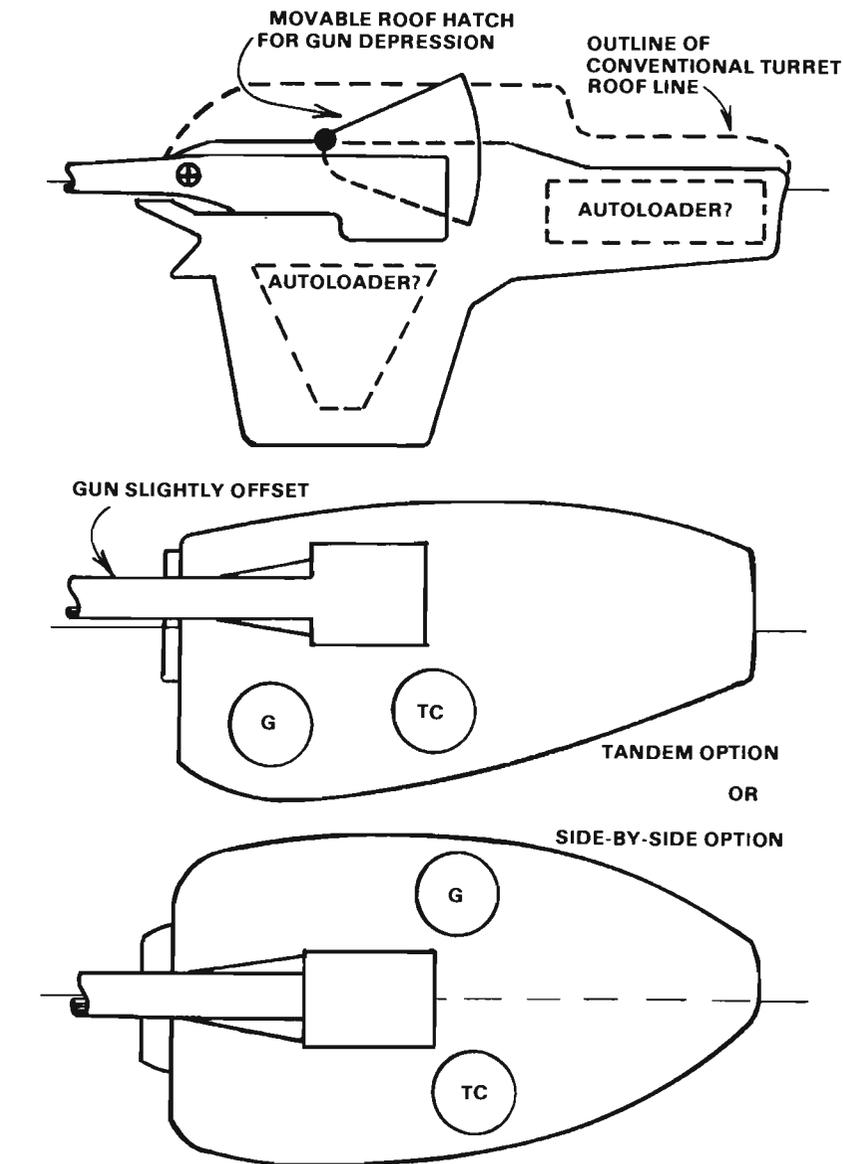

Figure 1a.
Luckily, we have wooden if not yet metal realizations of the two extremes — the conventional in the low profile turret of *LEOPARD 3* (figure 1a), and the far-out in the Swedish *UDES 40* (figure 1b). Very briefly, *LEOPARD 3* will have an autoloader (either a turret-basket carousel or a bustle system); a roof hatch to take care of the breech
Fig 1a. (left) The Leopard 3 concept is more conventional, with commander “up top” in low-profile turret. Several possible autoloader configurations are shown. A roof hatch rises to accommodate the gun breech in depression.
*Low profile turret. (Leopard 3, figure 1a).* The low-profile turret represents a major advance in the face of horizontal attack, whether frontal or flank, because it reduces the height above trunnions (to turret roof), and thus the presented area, by one third or more. The proportionate reduction of the area exposed in hull defilade is evidently much higher. But because the length and angle of the turret side is unchanged, this configuration has little to contribute to the level of protection against flank attack. Much more important, it does nothing at all against overhead attack. The turret roof is just as flat, if anything larger, and significantly weakened by the gun hatch. (In fact, I strongly suspect this turret was designed against the classical threat analysis.) The spread-eagling of the crew right under the roof considerably reduces real survivability, the more so if they are sitting on the main armament ammunition! Putting the turret crew in tandem and offsetting the gun slightly could slightly reduce roof area, but I suspect the “other half” of the turret
important as to make the cleft turret rear its ugly head once more. This is a step in the right direction in that it allows the turret crew to be placed in nacelle-like pods which can be shaped to optimize protection. It also lends itself to external autoloading from safely remote magazines (see *UDES 40*, figure 1a). But it still suffers from the ladies' cocktail party problem — What happens when somebody drops something down the divide? Unless one expends an absurd amount of weight